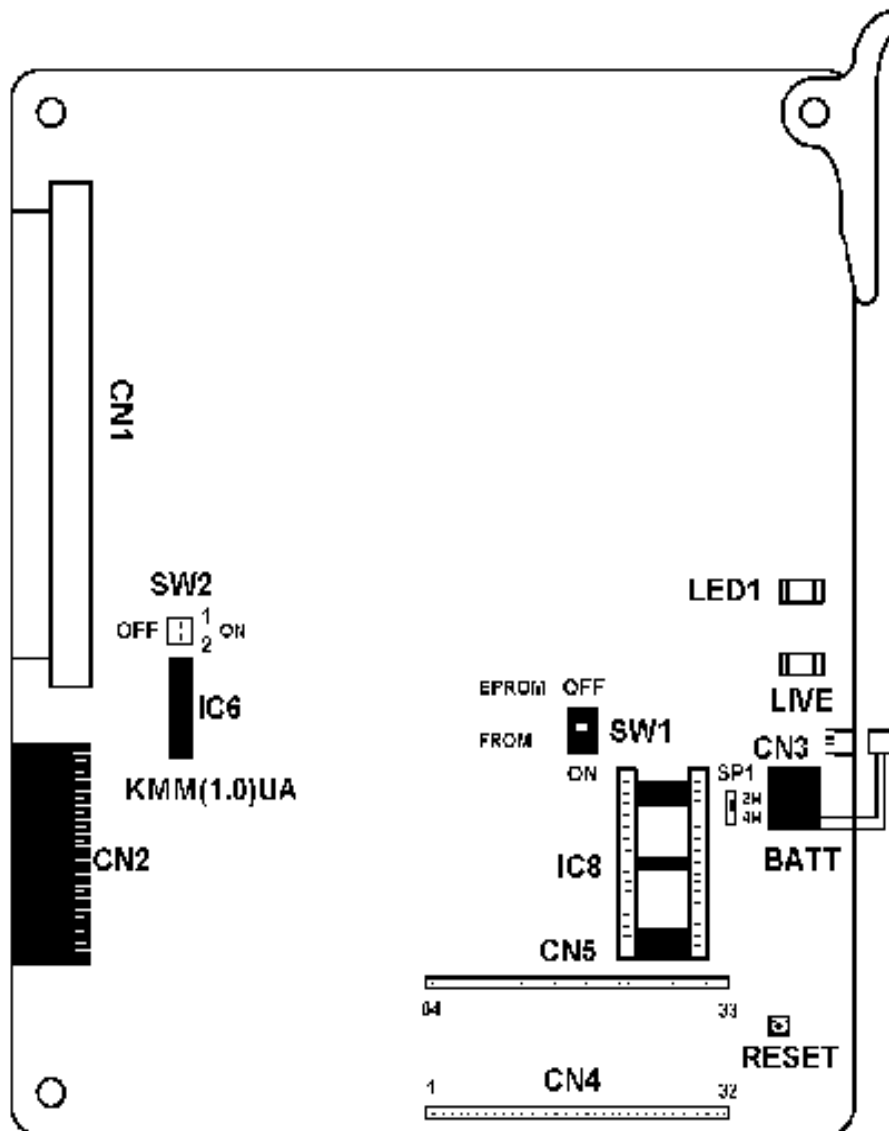

Figure 1-1: MIFM-U() ETU
2. Mount the EPROM labelled “MIFM Rev 5.XX” on MIFM-U() card (IC8). Refer to *Figure 1-1: MIFM-U() ETU* for a diagram of the card.
3. Set the switch SW1 to **OFF** (EPROM) and set the DIP SW2-1 and SW2-2 to **ON**. Refer to *Figure 1-1: MIFM-U() ETU* for a diagram of the card.